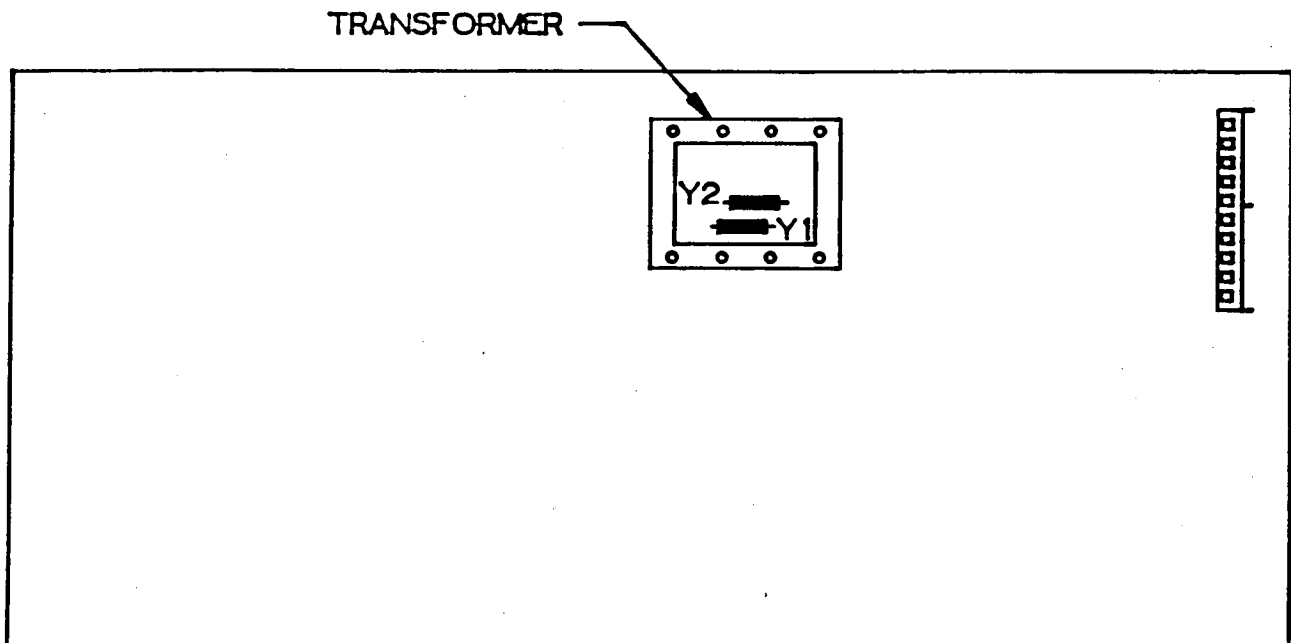

Fig. 2-6 — Model 160X Main Circuit Board
4. Referring to Figure 2-6, find the location on the 160X's circuit board for the mounting location of the transformer. Within the transformer-mounting area are two jumpers (Y1 and Y2). Cut or unsolder these jumpers.